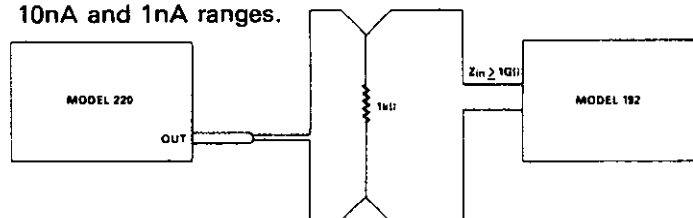

Figure 5-1. Calibration Setup
3. Remove the short from the output and connect the Model 220 and Model 192 as shown in Figure 5-1. Program the Model 220 output +.0000-3 amps. Monitor the Model 220 output on the Model 192. Invert the Model 220 output (press \pm and ENTER on the Model 220) and note the change in current. Calculate the average reading when the output is changed from positive to negative and adjust R304 for the calculated value. Then adjust R392 for a reading of less than $\pm 100\text{nA}$ ($100\mu\text{V}$ across $1\text{k}\Omega$).
4. Set up the circuit shown in Figure 5-1 and 5-3. Follow Table 5-2 to calibrate the ranges of the Model 220.